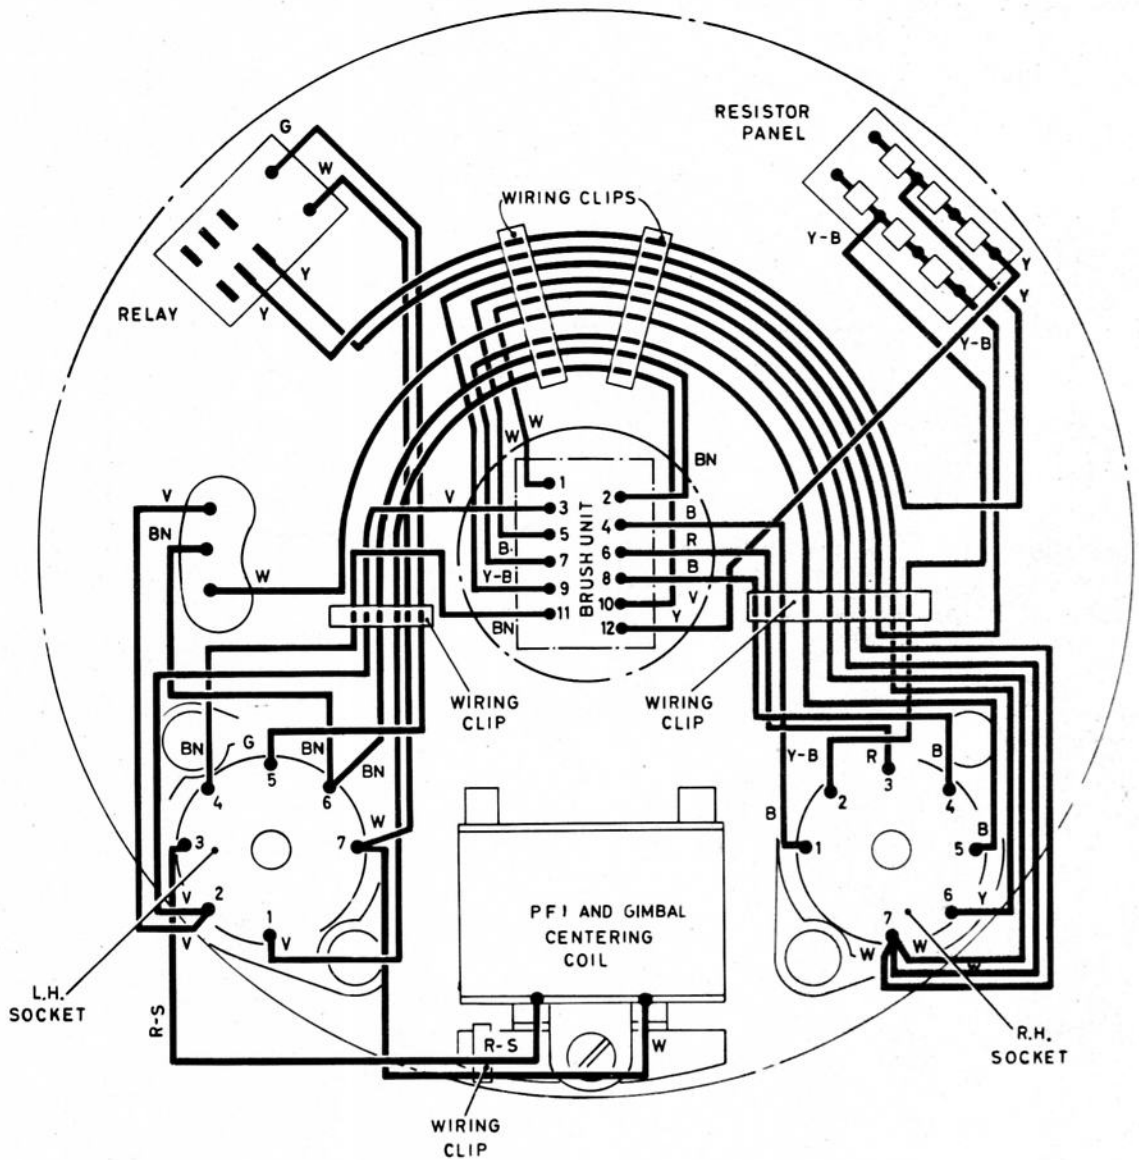

Fig.4 Wiring diagram for fast erection switch and plug
- (1) Connect 6 in. yellow and green wires to the contacts, the yellow wire to the moving contact. Cover the soldered joints with neoprene sleeves.
- (2) Fit the locating block to the terminal box with two 6BA $\frac{9}{32}$ in. ch. hd. m.s. c.p. screws and fit the switch box to the terminal box with two 8BA $\frac{5}{32}$ in. ch. hd. m.s. c.p. screws.
- (3) Connect the wires from the terminal seals and push switch to the 12-pole plug as in fig.4.